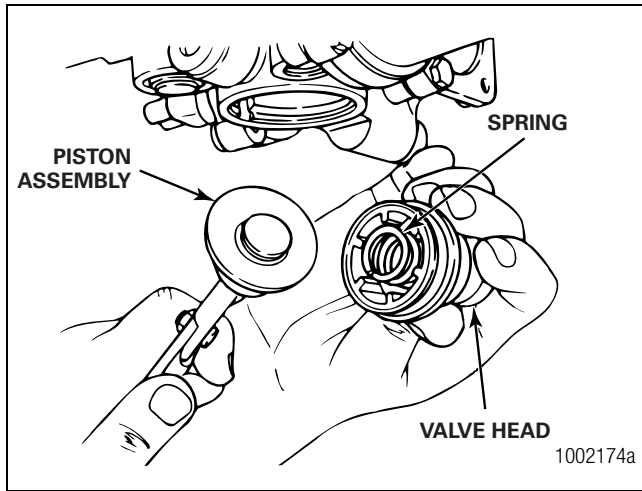

Figure 2.14
- Remove the piston assembly from the base. Figure 2.14.